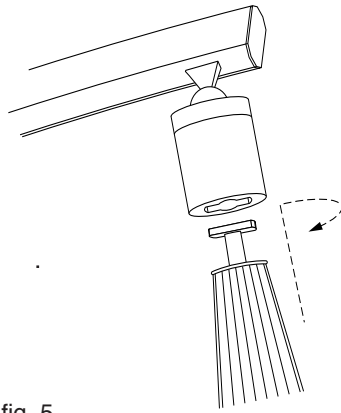

fig. 5
1. Insert the t-piece of the sunshade rib assembly and cover into the ball joint & socket (fig. 5) and turn a quarter turn until engaged or until you hear it click into place.